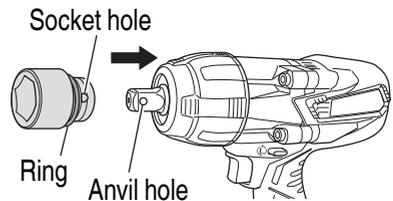

Fig. 1
- (1) Slide the ring out of the groove, and insert the socket so that the hole in the anvil aligns with the hole in the socket. (**Fig. 1**)